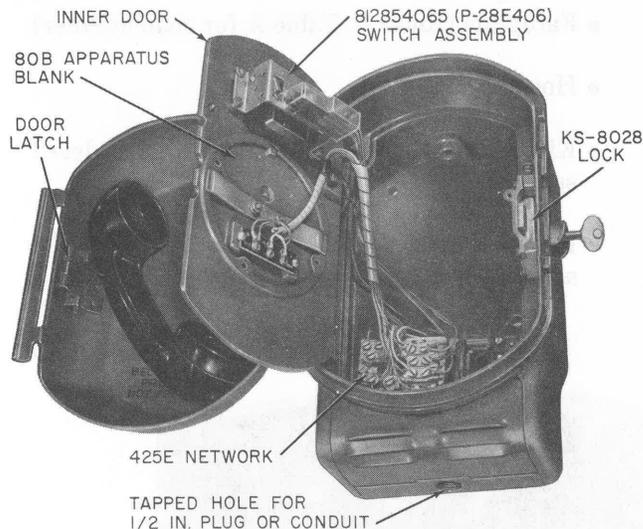

Fig. 1—525A (MD) Telephone Set (Manual), Inner Door Open
- Self-closing and self-locking outer door (Fig. 1 and 2). Lock can be removed if locking feature is not desired.
- Inner door to seal off set components from customer (Fig. 1 and 2).